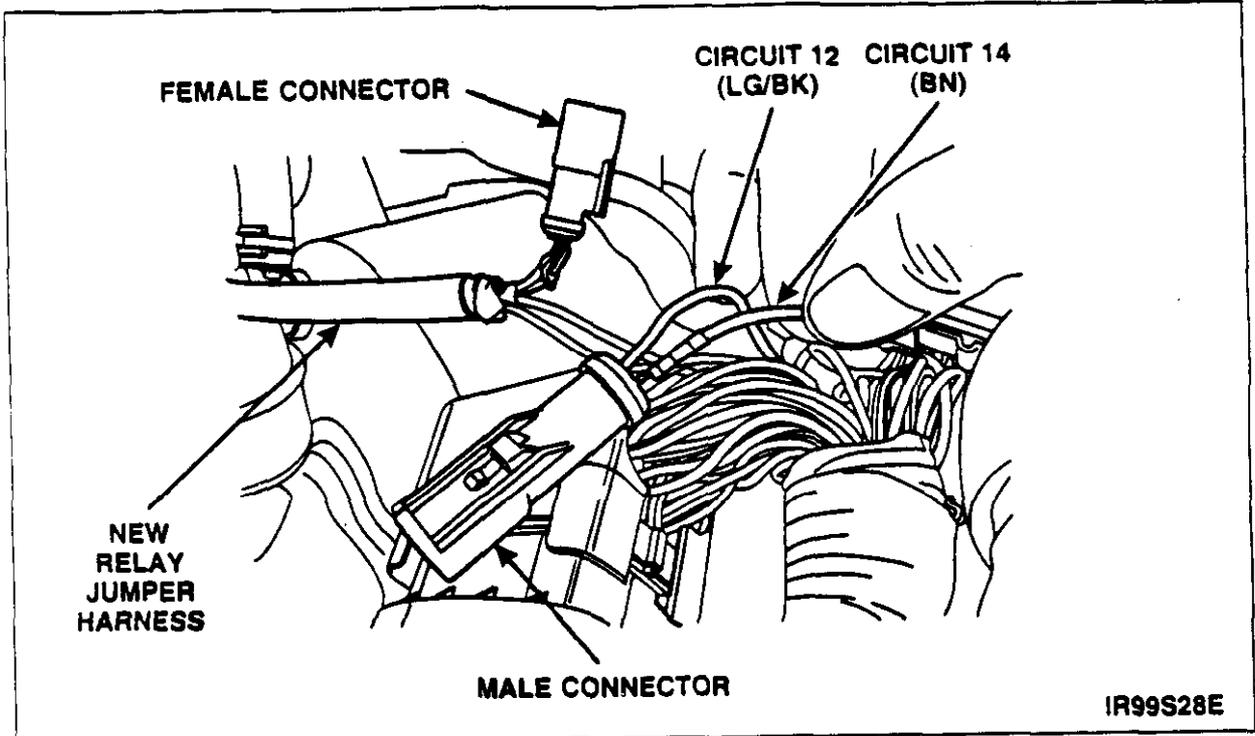

FIGURE 5
15. Insert circuit 12 (LG/BK) and 14 (BN) wires, which were removed from the 40-way connectors, into the male connector provided in the kit as indicated by the illustration. See Figure 5.